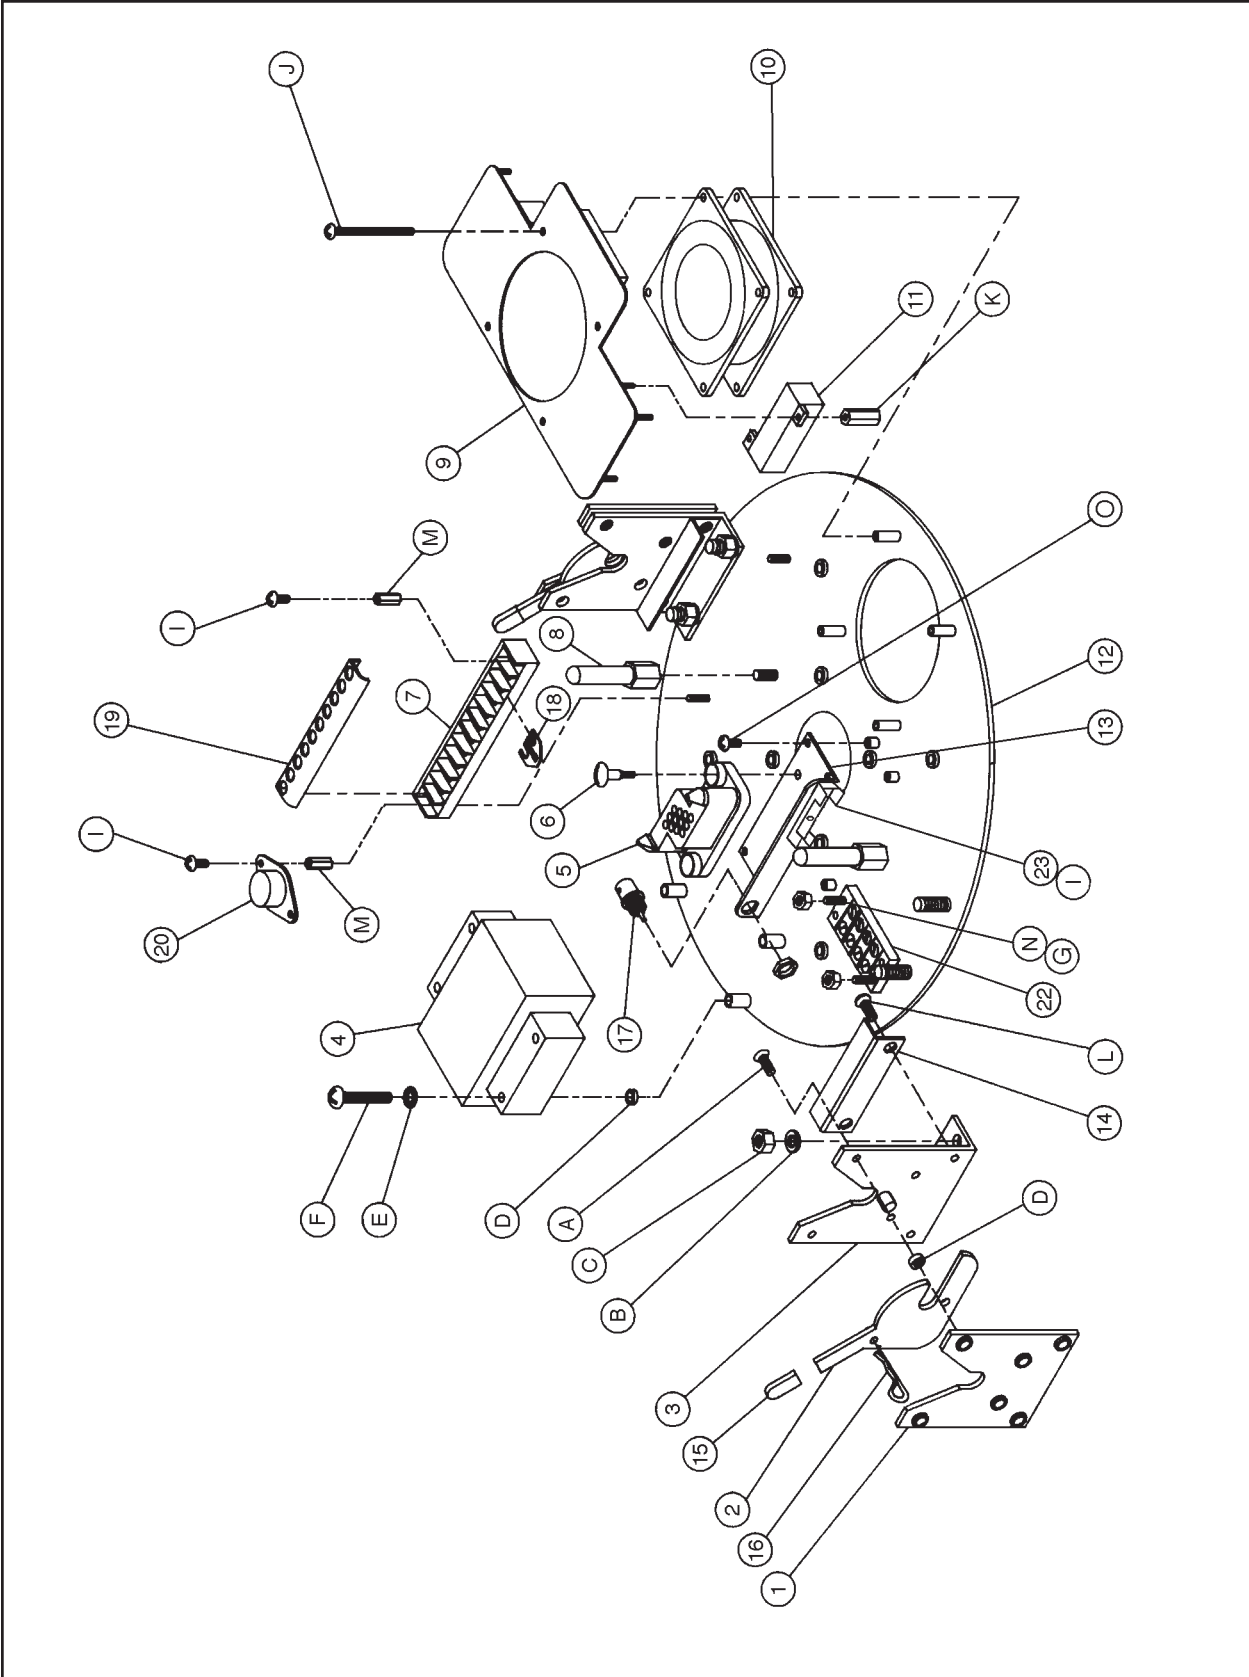

Figure 11. Back Plate Exploded Assembly Diagram
1. Place the fan over the four (4) unused internally threaded standoffs located on the back plate (refer to Figure 11). Note the arrow indicating the air flow direction of the fan, installing with arrow pointing "away" from back plate.
2. Place the heater assembly over the fan aligning the four (4) holes in the plate with the holes in the fan and the standoffs.
3. Install the four (4) #6 lock washers and screws through the plate and the fan threading the screws into the standoffs.
4. Mounting through one hole of the thermostat mounting tab, attach the thermostat to the standoff of the terminal block on the end nearest the fan using the 6-32 x 3/8" screw (see Figure 11).
Table F. Back Plate Exploded Assembly Parts List (Figure 11)